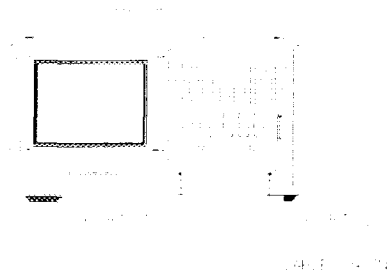

Figure 4-24. System Trace Noise Test Setup
- 1 Connect the equipment as shown in Figure 4-24.